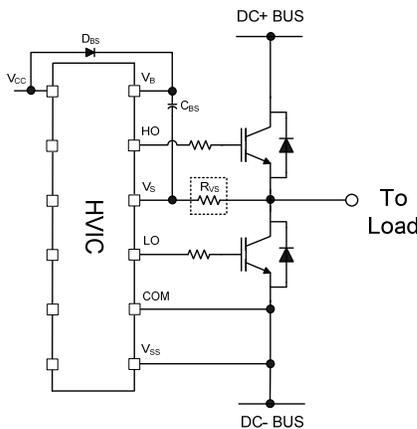
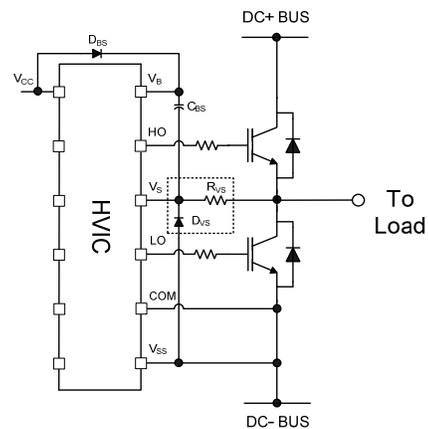

Figure 21:  $V_S$  resistor
Figure 22:  $V_S$  clamping diode
**Routing and Placement:** Power stage PCB parasitic elements can contribute to large negative voltage transients at the switch node; it is recommended to limit the phase voltage negative transients. In order to avoid such conditions, it is recommended to 1) minimize the high-side emitter to low-side collector distance, and 2) minimize the low-side emitter to negative bus rail stray inductance. However, where negative  $V_S$  spikes remain excessive, further steps may be taken to reduce the spike. This includes placing a resistor ( $5\ \Omega$  or less) between the  $V_S$  pin and the switch node (see Figure 21), and in some cases using a clamping diode between COM and  $V_S$  (see Figure 22). See DT04-4 at [www.irf.com](http://www.irf.com) for more detailed information.